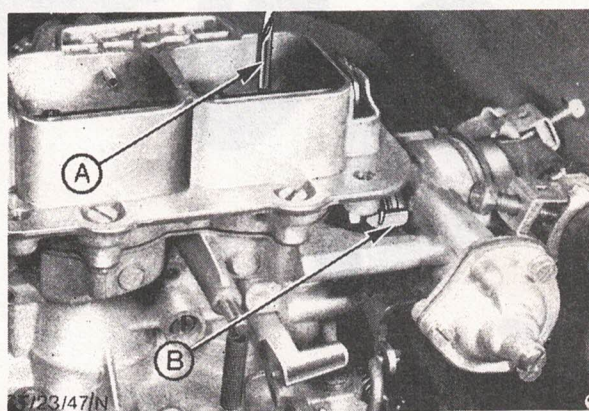

Fig. 52. Choke Phasing Adjustment
12. Adjust choke phasing by bending tag, marked in Fig. 52.